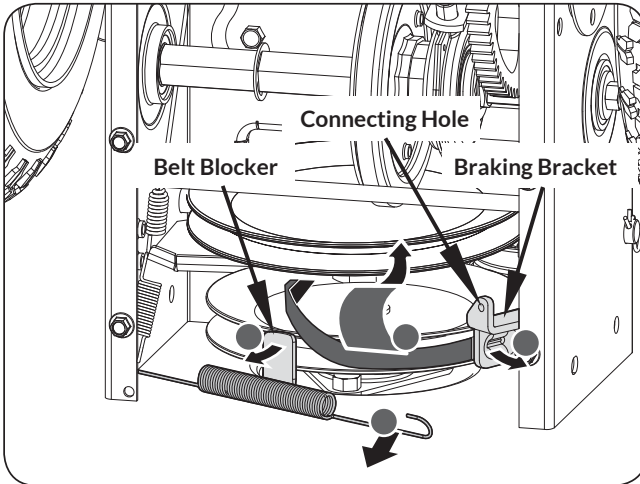

Figure 20d
6. Release the spring from the connecting hole in the braking bracket. Bend the belt blocker a bit and move the braking bracket away from the belt. Remove the belt from around the auger pulley, and slip the belt between the support bracket and the auger pulley. (See **Figure 20d**)